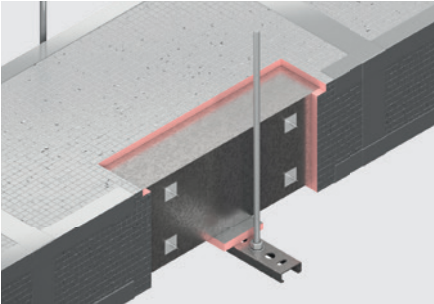

Figure 25: Insulation pin fixings attached to ductwork
- When they are used, mechanical fixing pins should be positioned so that they are neatly and evenly distributed under each piece of insulation as shown in Figure 25. They should be located no less than 75 mm, and no greater than 150 mm, from insulation edges and corners.